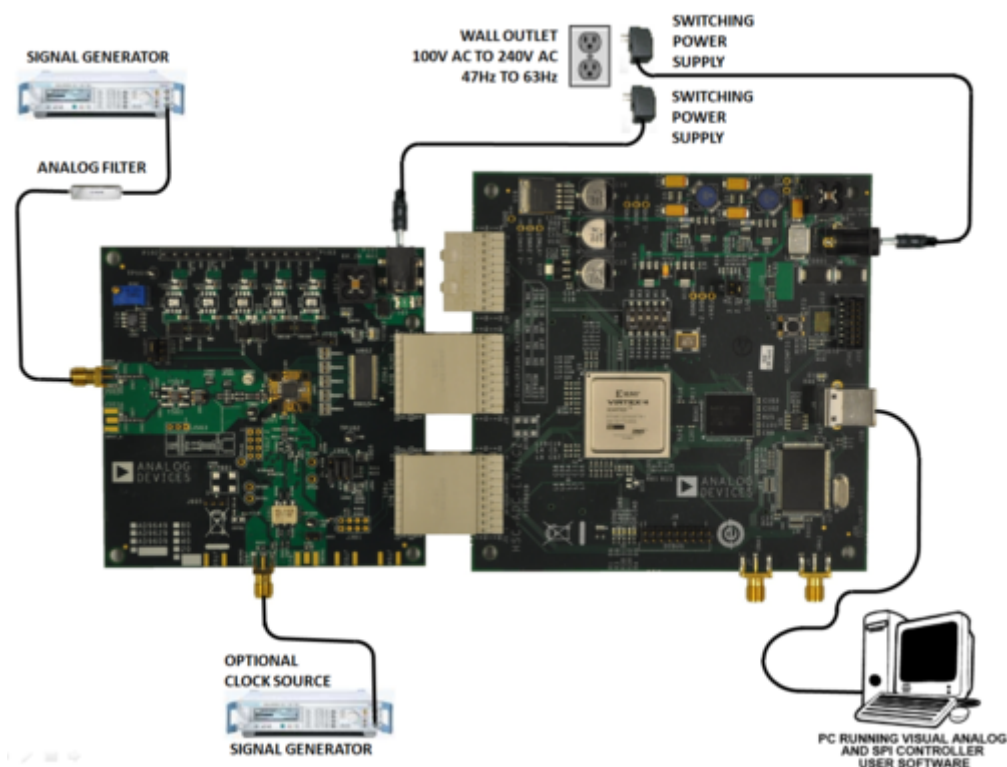

Figure 1. Evaluation Board Connection—AD9266-80EBZ/AD9649-80EBZ/AD9629-80EBZ/AD9609-80EBZ (on Left) and HSC-ADC-EVALCZ (on Right)
1. Connect the evaluation board to the data capture board, as shown in Figure 1. The AD9266, AD9649, AD9629, and AD9609 are all pin compatible and use the same evaluation board.
their various modes and configurations. Figure 1 shows the typical bench characterization setup used to evaluate ac performance. It is critical that the signal sources used for the analog input and clock have very low phase noise (ideally ~ 100 fs rms jitter) to realize the optimum performance of the signal chain. Proper filtering of the analog input signal to remove harmonics and lower the integrated or broadband noise at the input is necessary to achieve the specified noise performance.